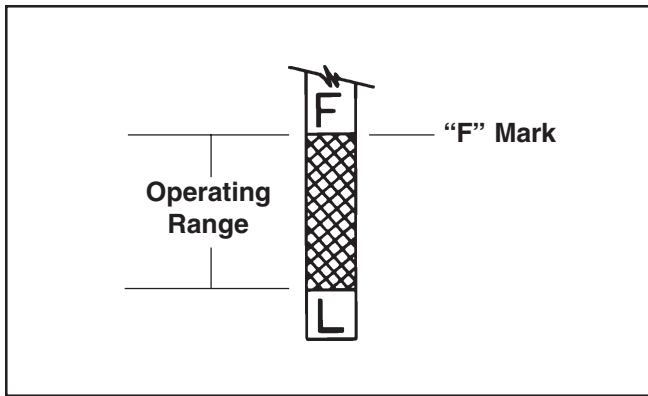

**Figure 6. Checking Oil Level.**
3. Unthread and remove the oil fill cap/dipstick; wipe oil off. Reinsert the dipstick into the tube and rest the oil fill cap on the tube. Do not thread the cap onto the tube. See Figure 6.